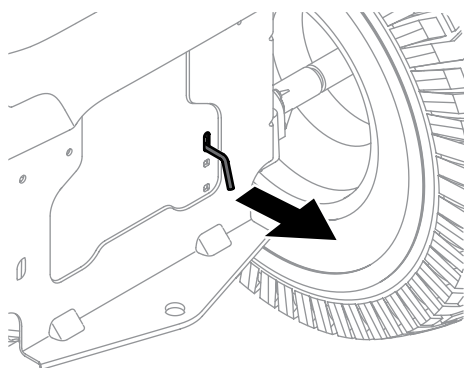

Figure 2-1
1. Engage the transmission bypass rod to move the tractor manually without starting it. The transmission bypass rod is located on the rear of the tractor, on the frame. Engage the bypass rod by pulling out. See Figure 2-1.
2. Disengage the bypass rod by pushing the rod back in after moving the tractor. See Figure 2-1.